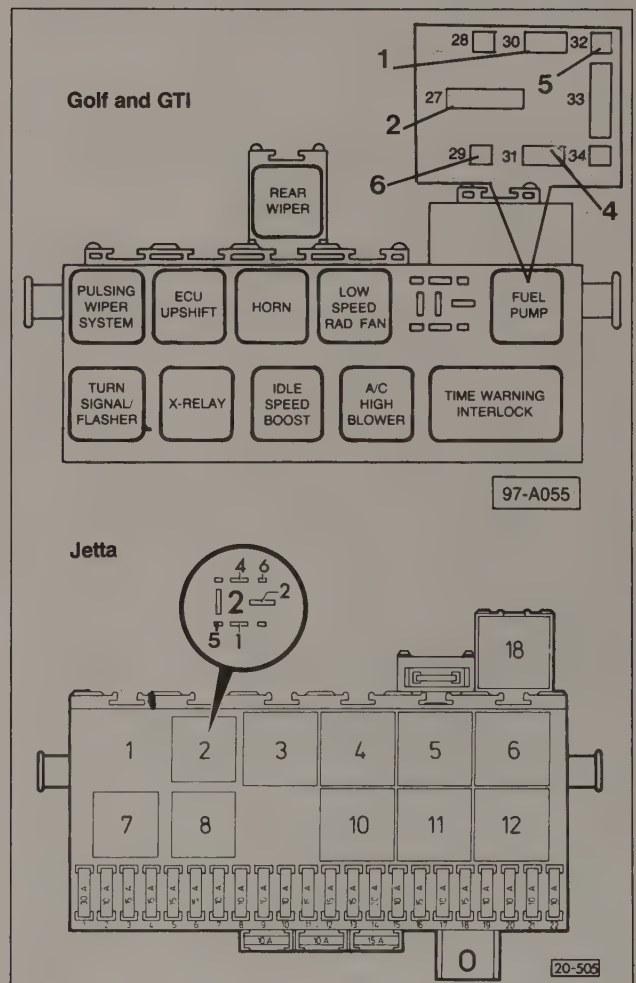

Fig. 4-10. Fuel pump relay location on Golf and GTI (top) and Jetta (bottom). Insets show terminal designations used for testing.
The first step is to check the fuel pump fuse (no. 10 on Golf and GTI, no. 5 on Jetta). Replace a failed fuse and test the fuel pump again. If the fuel pump fuse is good, make voltage tests at the fuse/relay panel as described below. The GTI, Golf, and Jetta relay panels are shown in Fig. 4-10.
3. Using a test light or a voltmeter, check that the voltage between socket 2 and ground and between socket 4 and ground is equal to battery voltage (approximately 12 VDC). See Fig. 4-10 above.